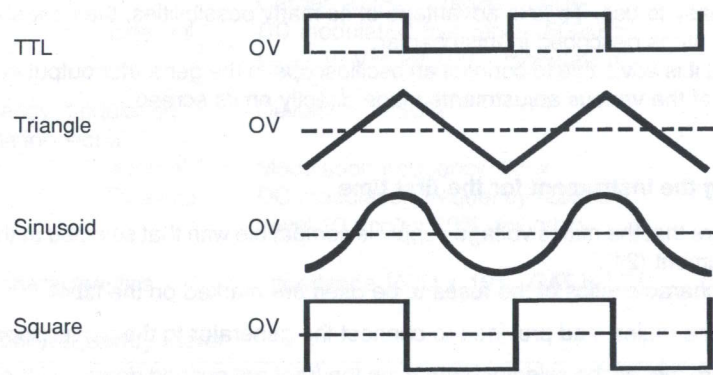

figure 1
- 1) Select the desired wave-form (8), then the frequency band (7); your choice is displayed by the LED indicators.
- 2) Turn the FREQ button (13) first using the COARSE adjustment and then the FINE; check the value obtained on the display.
- 3) The AMPL control (12) allows the amplitude of the alternating signal to be defined on the principal output (23).
- 4) Pull the OFFSET button (11) out then turn it to superpose direct voltage on the alternating signal chosen.
- 5) By pulling the AMPL button (12), you will obtain an attenuation of 20dB on the principal output (i.e. division by a factor of 10), including the offset if activated.
- 6) A TTL/CMOS logic output is available at the back of the instrument and the phase relationship of the various types of signals is described in figure 1.